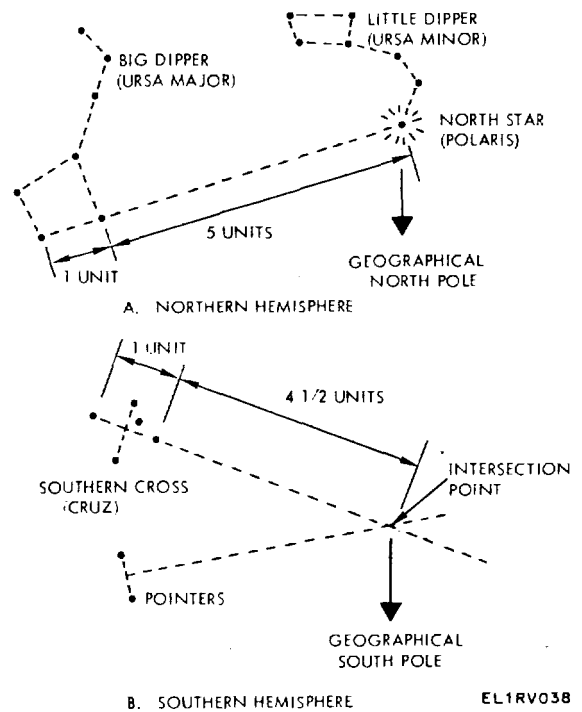

Figure 2-24. Star-sighting method for locating earth's geographical poles.
a. At Northern Hemisphere sites, locate the geographical North Pole as shown in A, figure 2-24. Locate the Big Dipper (Ursa Major), and note that an imaginary line crossing the two lowest stars points directly to the lowest star of the Little Dipper (Ursa Minor). This is the North Star (Polaris). If the distance of the two lowest stars of Ursa Major is taken as one unit, it is then five more units to the North Star. The geographical North Pole is located directly below the North Star.
b. At Southern Hemisphere sites, locate the geographical South Pole as shown in B, figure 2-24. Locate the Southern Cross (Crux) and the two stars below it that are designated as pointers.